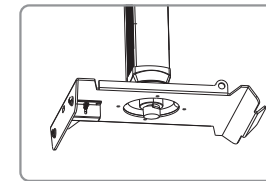

Figure 4
1. Press the release button for separating the top bracket⑦ and low bracket⑧, refer to figure 3 and figure 4. Then, adjust the half-cycle junction⑤ and ensure that the groove of half-cycle junction to be align the direction of security lock⑨, and then put it on the subsidiary bar after assembling. Finally, the glider is installed on the half-cycle junction for fastening the main bar⑥ as the figure.